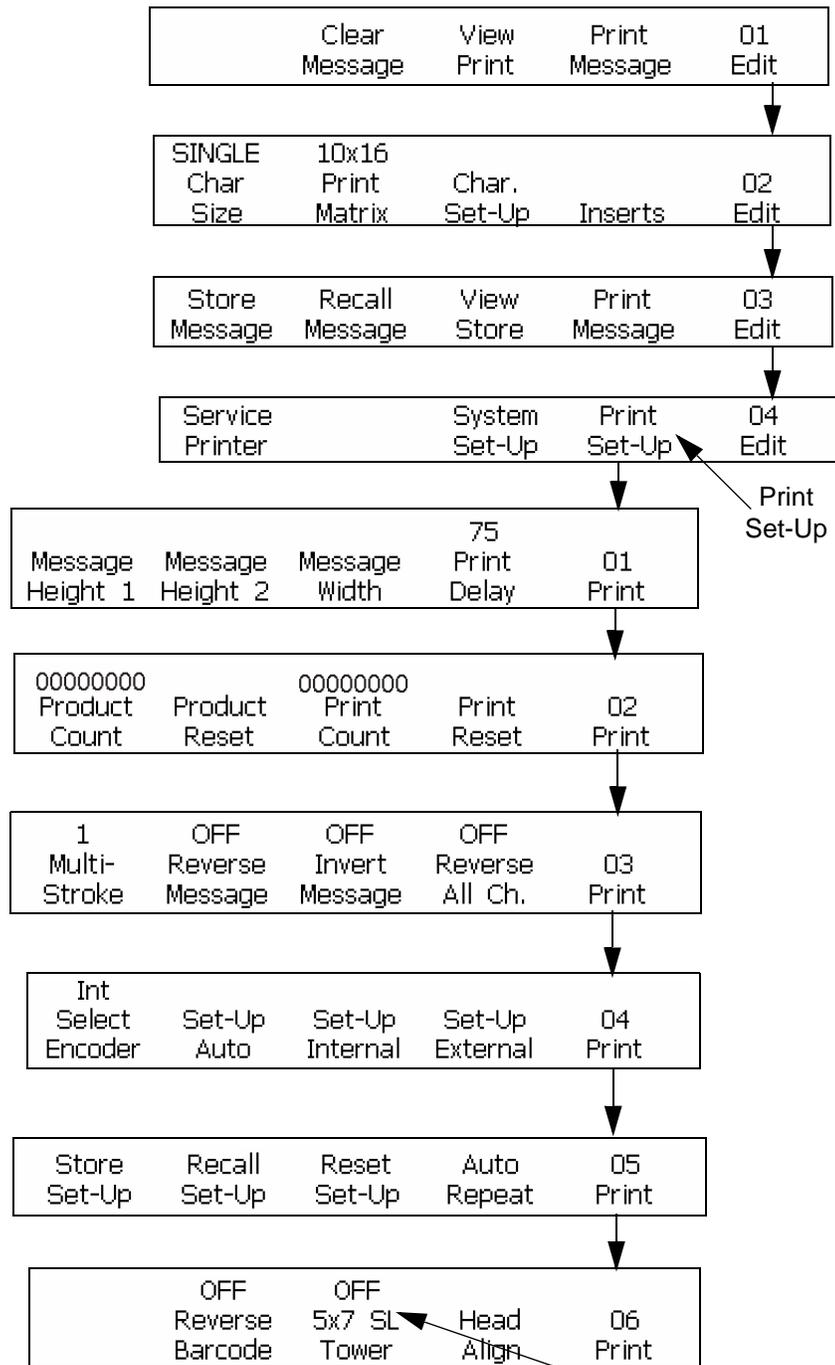

Figure 7-17: Access Frame <06 Print>
- 2 Begin with the Frame <06 Print>. Refer to Figure 7-17 on page 7-29.